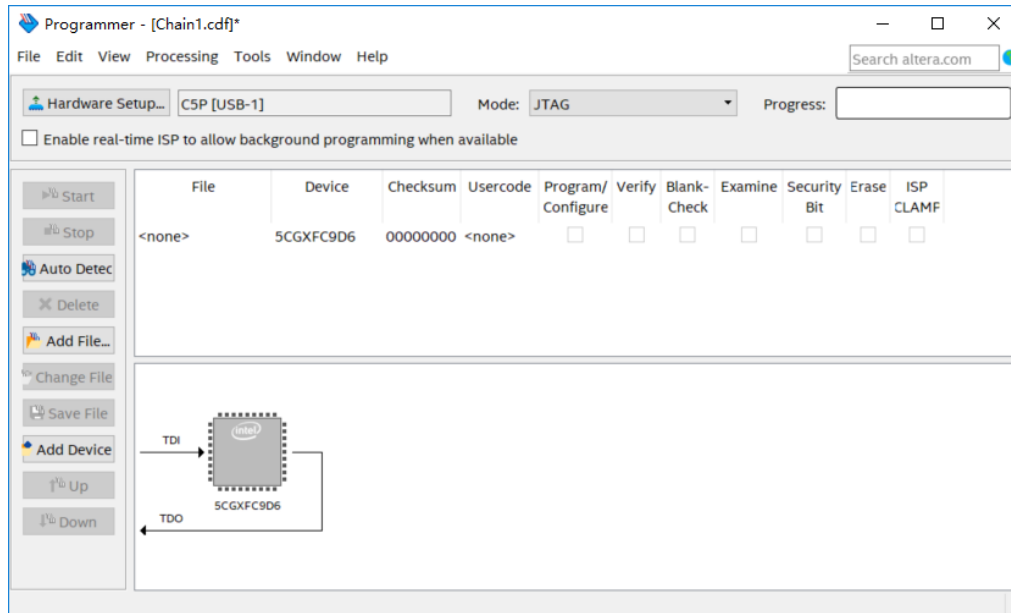

Figure 3-4 FPGA detected in Quartus programmer
- The FPGA is detected, as shown in **Figure 3-4**.